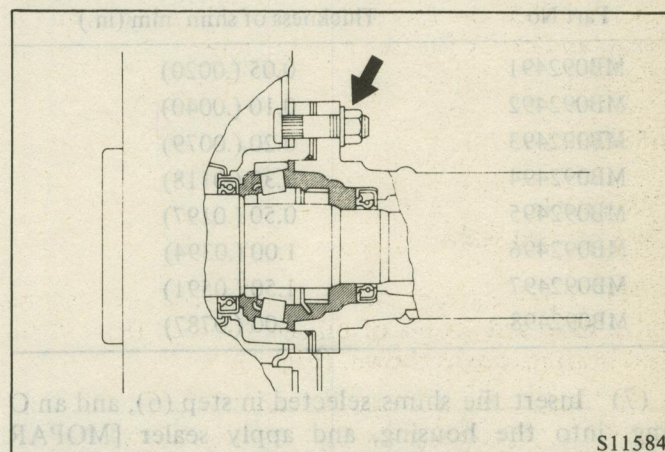

Fig. 14 Tightening of Axle Bearing Case and Bearing
(3) Fit the left side axle shaft assembly into the left side of the housing, and tighten the bearing case and bearing to the specified torque. (Fig. 14)